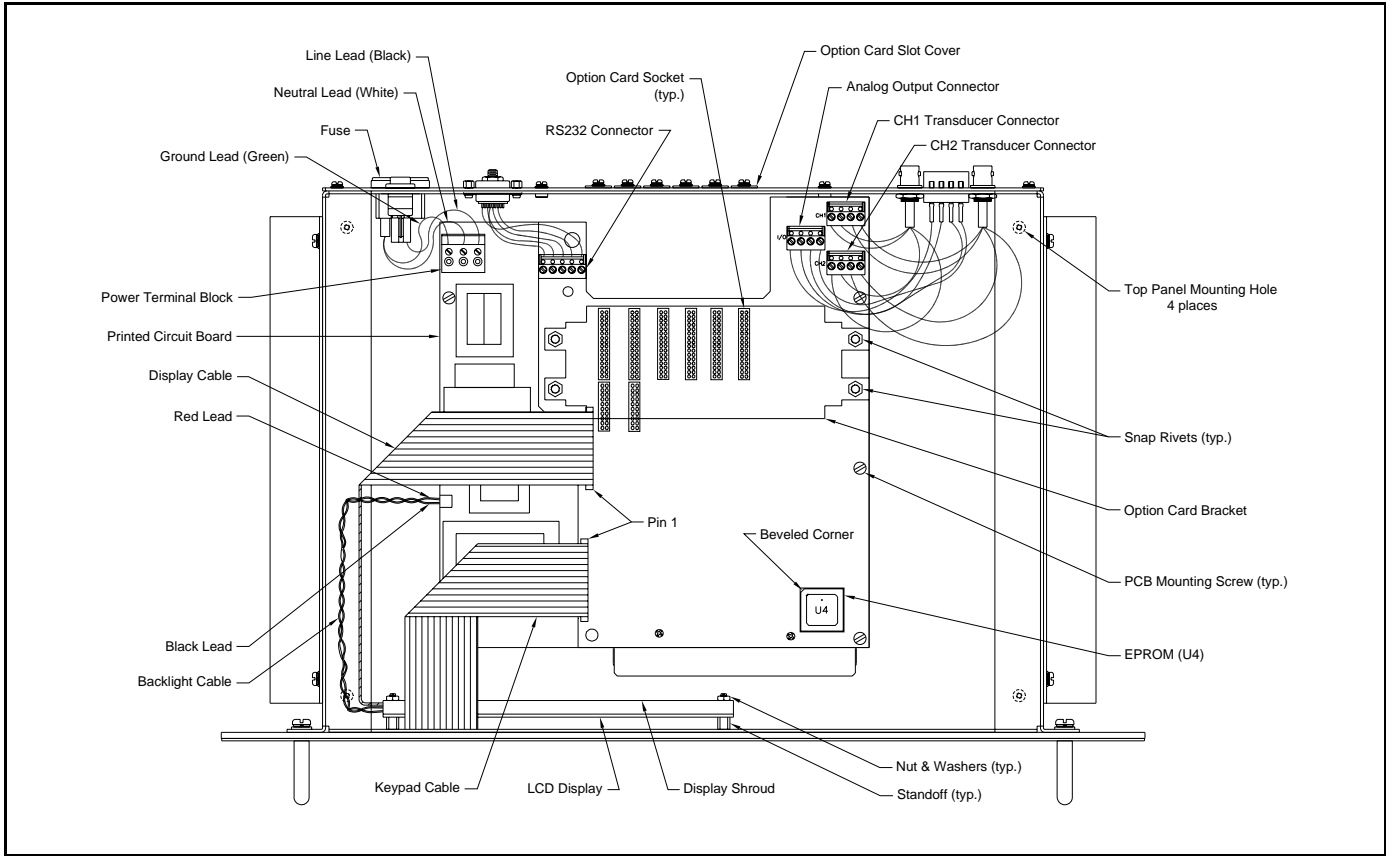

Figure B-2: Model GF868 Rack Mount Console Assembly - (ref. dwg #705-849)
EPROM replacement may be required to replace a defective chip or to upgrade to a newer software version. To replace the EPROM, refer to Figure B-2 on page B-11 and complete the following steps:
To replace the LCD display, refer to Figure B-2 on page B-11 and complete the following steps:
Refer to Figure B-2 on page B-11 and complete the following steps:
5. Install the RS232, ANALOG OUT and TRANSDUCER connectors onto the printed circuit board at the locations indicated in Figure B-2 on page B-11. Make sure the marked pin #1 sides of the connectors face the right side (keypad side) of the enclosure.